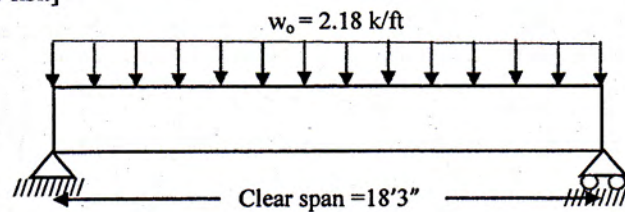

Figure 3
- (b) Differentiate between WSD and USD method. (2)
- (c) Use the WSD method to design the simply supported RC beam AB shown in the Figure 3 below as a singly reinforced beam excluding its self-weight. [Given: $f'_c = 4$ ksi, $f_s = 24$ ksi.] (5)